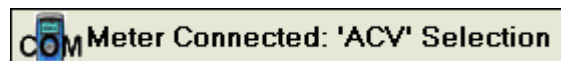

Figure A-3 Meter connection success
- 7 When the settings matched with the meter settings, the software will return a message and status will change to “Meter Connected” as shown in figure A-3.